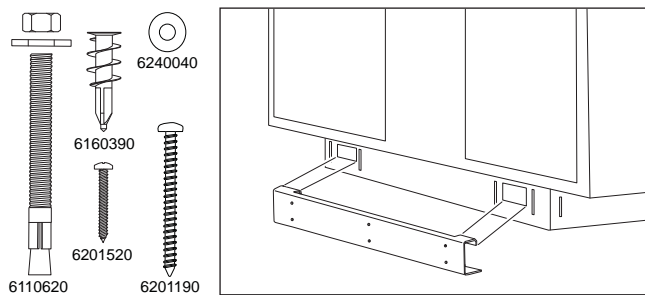
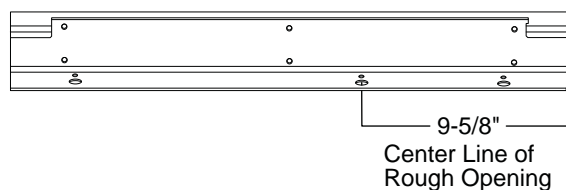

Figure 1
Figure 2
For Shipping, anti-tip blocking bracket is fastened to crate base at front of unit. Where you are installing it, you must install anti-tip bracket 26" (660) back from front face frame so it engages unit properly as shown in Figure 1. It is important that this measurement be made from front of face frame, to back of bracket. In all instances, Sub-Zero unit should be installed on a solid base. **NOTE:** Middle set of holes on lower flange must be aligned in center of bracket. They are located 9-5/8" from right side of bracket. Therefore, once installed, bracket will be off-set to left side of rough opening (See Figure 2).
Use twelve #12 x 2-1/2" wood screws and twelve 1/4" flat washers provided. Following figure 1, drill pilot holes 3/16" diameter maximum, being certain screws penetrate through flooring material and into wall plate a minimum of 3/4". Be sure screws hold tight. If #12 x 2-1/2" screws do not hit a wall stud in any of upper holes on back of bracket, use a provided #8 x 1-1/4" wood screw, 1/4" flat washer and a zip-it wall anchor in its place.